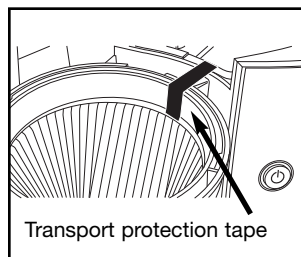

Fig. 2
- Now remove the transport protection tape (it wraps from the inside of the filter holder into the water tank) (Fig. 2).